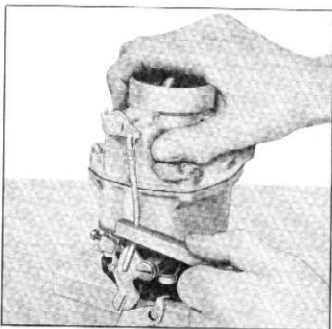

Fig. 106—Adjusting Choke Rod
2. If necessary, bend choke rod using tool J-4552, until required clearance as measured in step 1 is obtained (fig. 106).